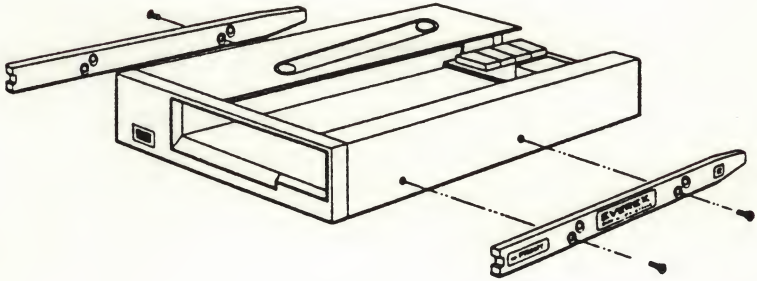

Figure 3-9 Attaching AT Slide Rails to an Internal Tape Drive
15. For an IBM AT or compatible computer, attach the slide rails provided with the tape drive, as shown in Figure 3-9.